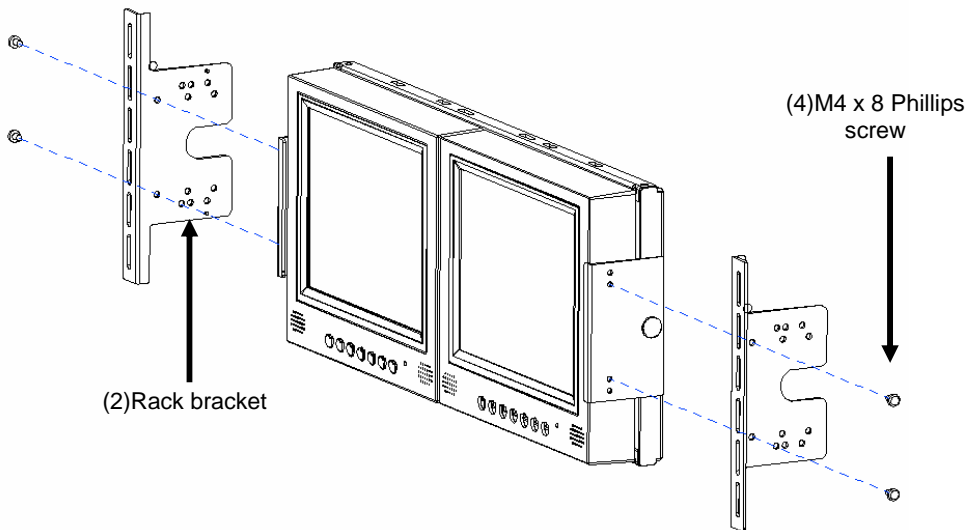

Figure 4
Take the two (2) side brackets and adjust the location of side bracket before secure them to the Rack Mount Bracket mount using the (4) M4x8 Phillips screws. The front side of side bracket is recommended flat with a monitor. (figure 4, 5)